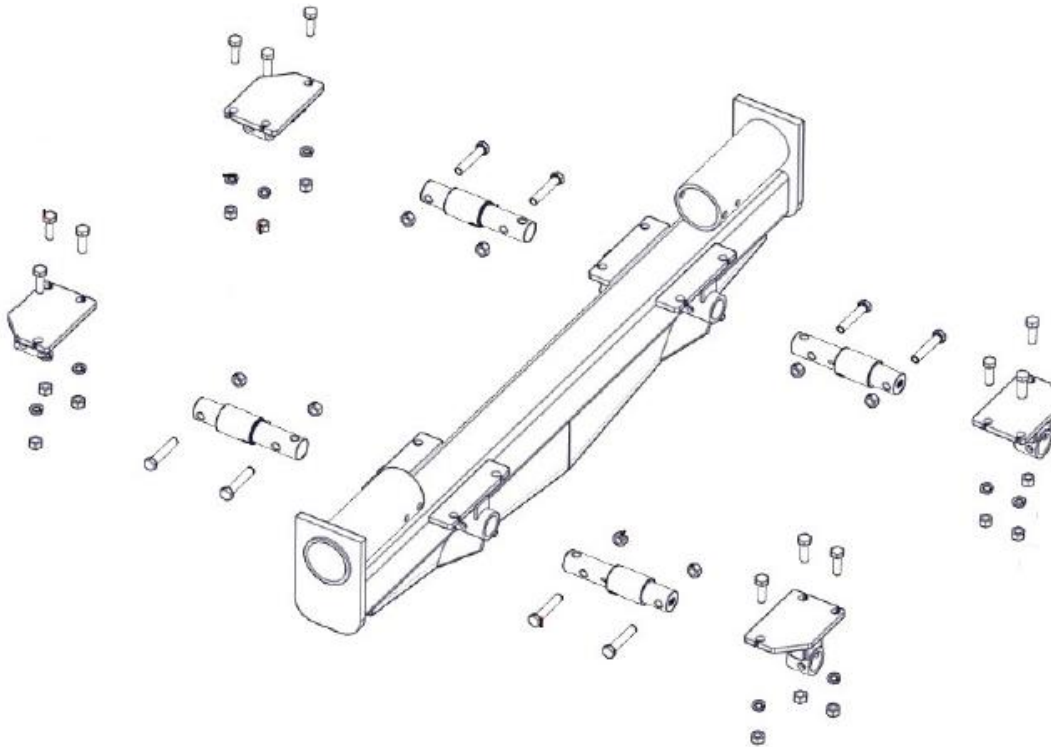

Fig. 2
3. Install load cell assemblies as depicted in Figure 2. Leave the hardware loose, do not tighten.
Refer to Fig. 2